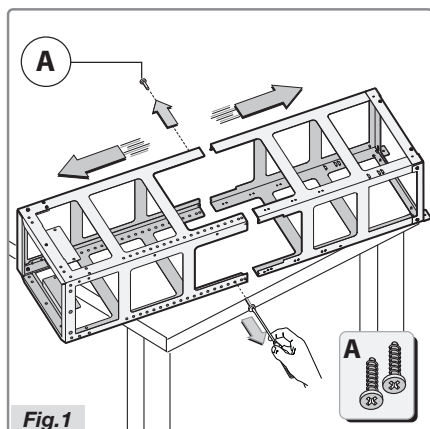

Fig.1
- Unpack the frame and remove the two screws A to separate the top section from the bottom section (Fig.1).